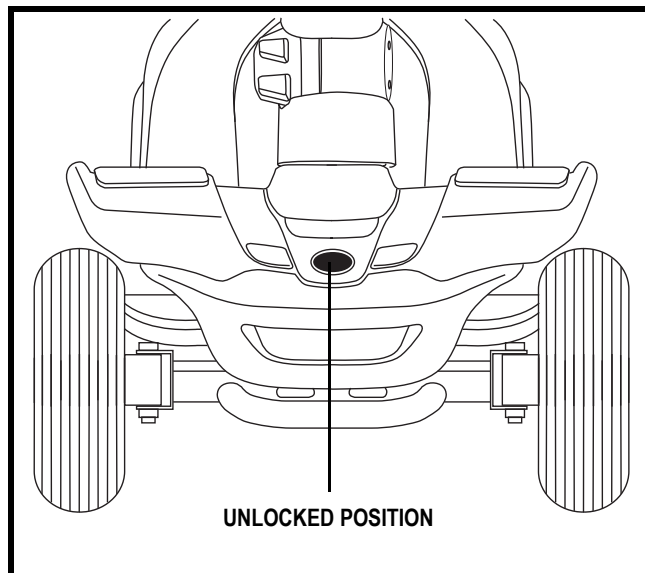

Figure 22A. Tiller Lock Knob (Unlocked)
9. Unlock the front wheel by turning the tiller lock knob 90° anticlockwise. See figure 22A.